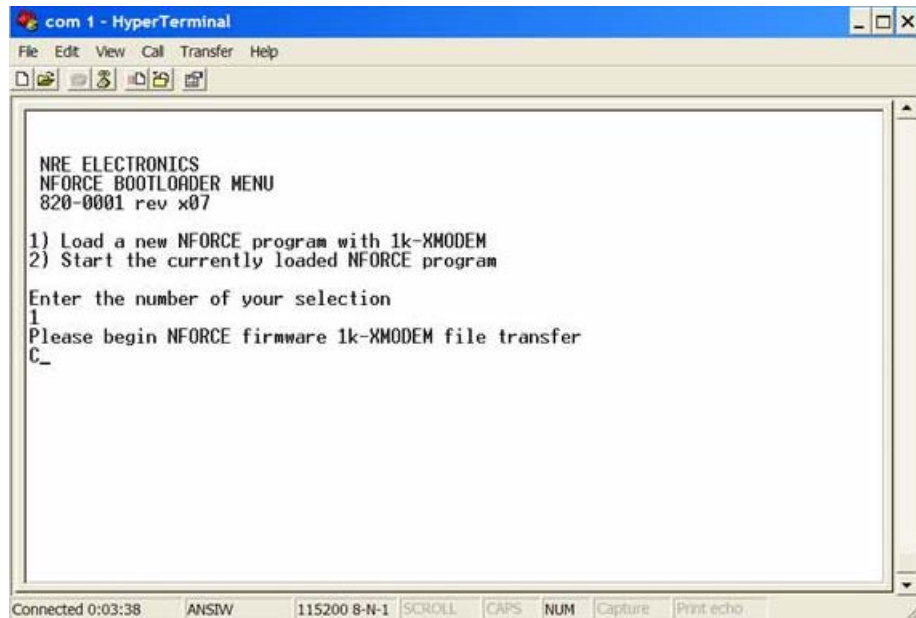

Figure 6-24 – 1k-XMODEM File Transfer
- Select option '1' to load a new program with 1k-XMODEM. The *NFORCE* will then begin the 1k-XMODEM file transfer process. Note this step is time sensitive as the *NFORCE* will allow 30 seconds for the file transfer to begin. The letter 'C' appearing on the terminal window is normal and denotes the *NFORCE* is waiting for the file (Figure 6-24).